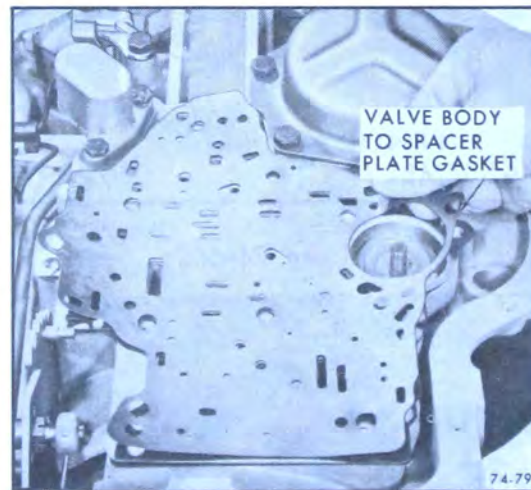

Figure 74-517
5. Remove valve body to spacer plate gasket. See Figure 74-517.